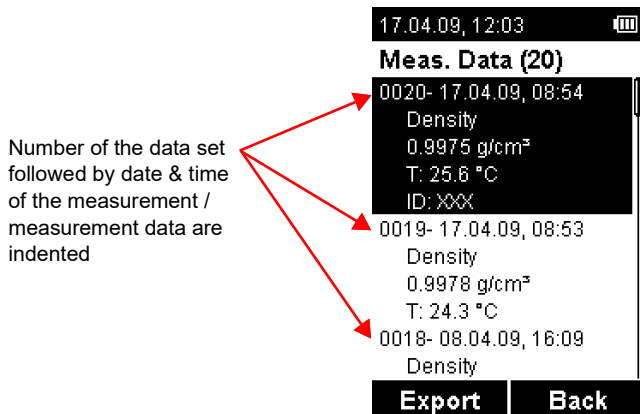

Fig. 9: List of measured data
- Saved data sets are numbered consecutively by a 4-digit counter (see fig. 9). If you see numbers greater than 1024, this indicates that older data sets have been overwritten.
The saved sets of measurement data are shown, see fig. 9.